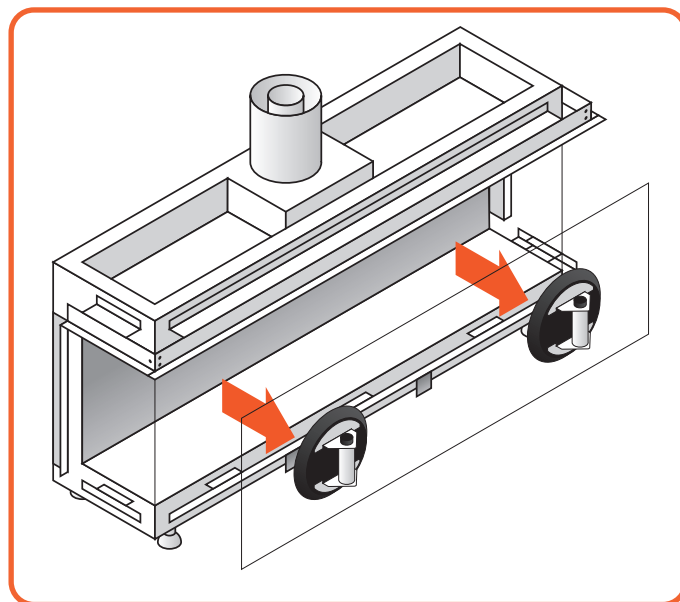

Figure 11.6 | Removing the glass pane
- Lift the glass out of the lower glass rail and tilt it out through the opening, as seen in Figure 11.6.